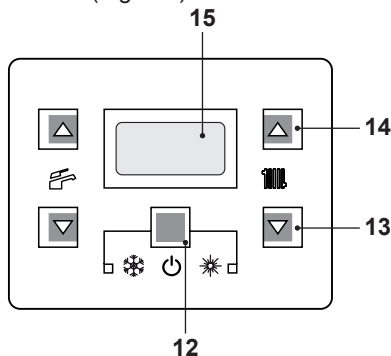
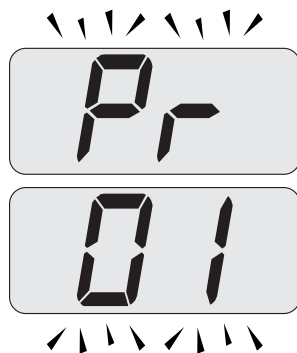
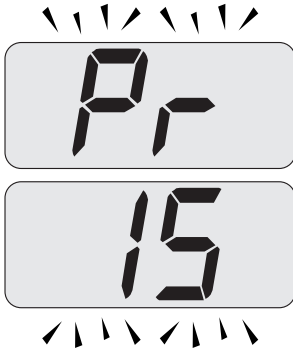

Fig. 8.7
Fig. 8.8
Fig. 8.9
- Enter in "programming mode" by sequentially pressing and holding keys 12 - 13 - 14 (Fig. 8.7) for 10 seconds at the same time until the letters **Pr** that alternate with code 01 are displayed on the LCD display, indicating that "parameter 01", has been activated (Fig. 8.8).
- Scroll the various parameters using keys 13 or 14 until the letters **Pr** that alternate with code 15 are displayed on the LCD display, indicating that "parameter 15" (Fig. 8.9) has been activated.
- Press keys 12 and 14 (Fig. 8.7) at the same time until the value of parameter 15 (Fig. 8.10) is displayed on the LCD display.
- By pressing key 12 (Fig. 8.7) confirmation of the inserted value is obtained.
- Press keys 12 and 13 (Fig. 8.7) at the same time to exit without changing the value (return to the parameters list Fig. 8.9).
- Press sequentially keys, 12 - 13 and then 14 (Fig. 8.7) and hold in for 10 seconds to exit the "programming mode".
However, if the ambient temperature is not comfortable, the flow temperature of the heating system can be increased or reduced by  $\pm 15^\circ\text{C}$  by pressing keys 13 (re-duce) and 14 (increase) (Fig. 8.7).